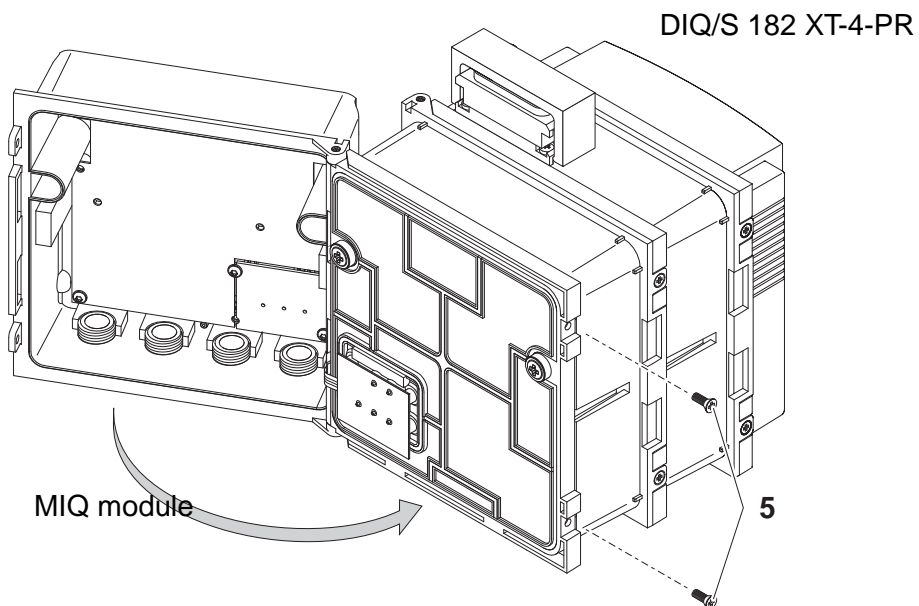

Fig. 3-11 Closing the enclosure (variant 2)
- 8 | Close the MIQ module and fix it with the two countersunk screws (pos. 5 in Fig. 3-11).